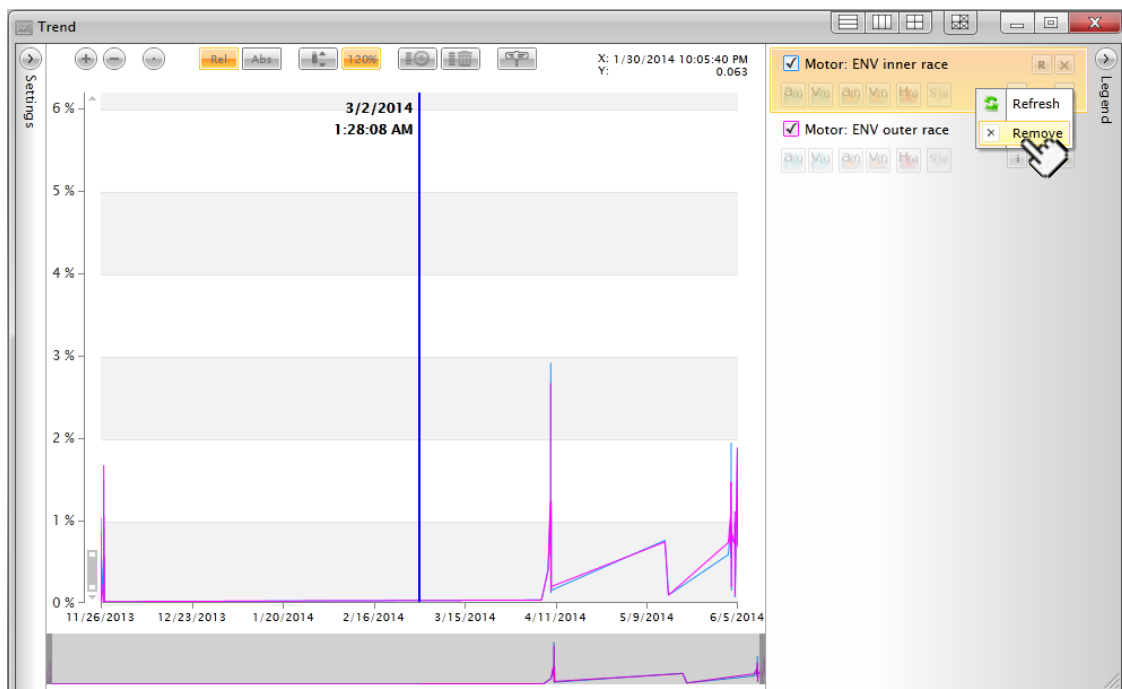

Figure 18: Remove trend via context menu
- ☐ Select the “Refresh” command in the context menu of a specific trend (see Figure 18: Remove trend via context menu)